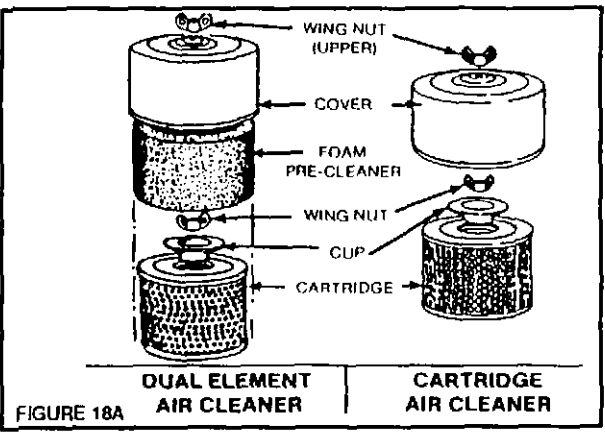

FIGURE 18A
1. Remove knob and cover. (Fig. 18A)